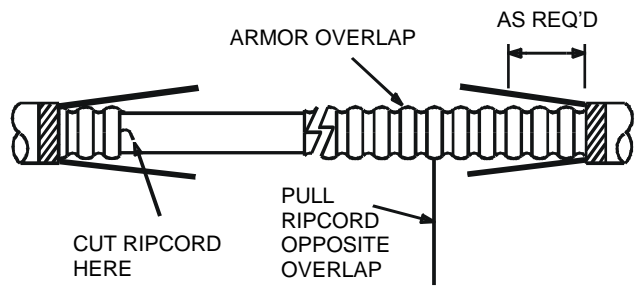

Figure 9 – Use the ripcord to open the armor.
13. Cut the armor ripcord near the tape mark (Figure 9).
14. Snip the end of the corrugated metal opposite of the armor overlap to create a starting point for the ripcord. Wrap the armor ripcord around the tip of needle nose pliers and pull the ripcord through the armor, opposite of the armor overlap, to the required length at the opposite end of the sheath opening (Figure 9). Pull the ripcord at a 90° angle relative to the cable axis to avoid ripcord breakage.